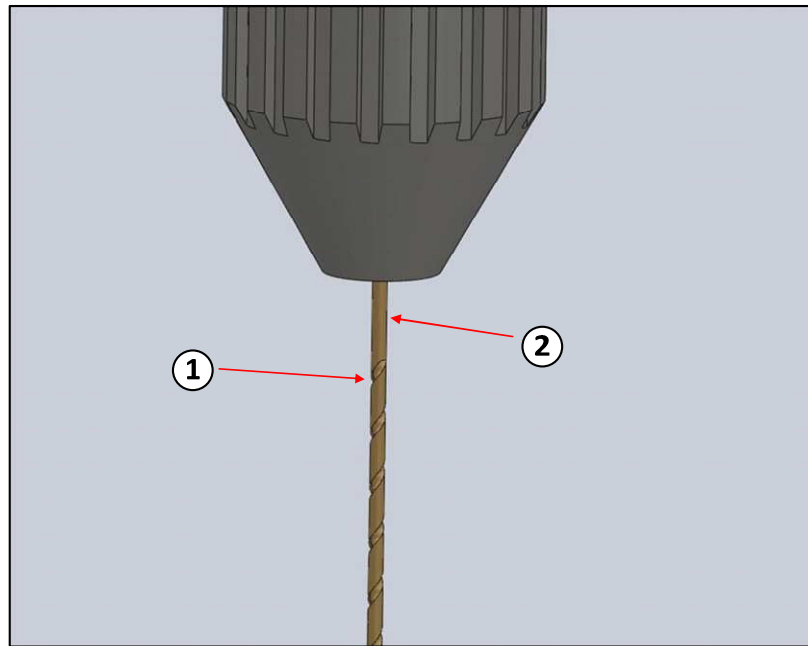

Figure 12: (1) Flutes. (2) Shank.
- A. Chuck the **1/16" Drill Bit** into the **Drill Press** chuck. When tightening the chuck, make sure the chuck jaws are not clamped onto the flutes. Have the jaws clamp onto the solid shank as seen in Figure 12.